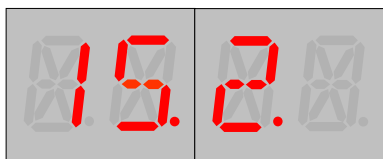

Figure 7c: Navigate to desired Bit.
3. Navigate to the desired Bit Number (UP, DOWN). See **Figure 7c**.